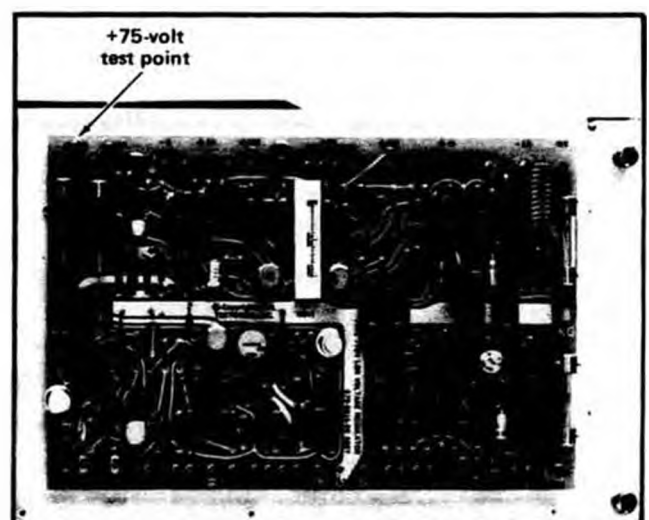

Fig. 5-2. Location of +75 volt test point on power supply regulator circuit board.
b. Connect the precision DC voltmeter between the +75 volt test point (see Fig. 5-2) on the power supply Regulator circuit board and ground.